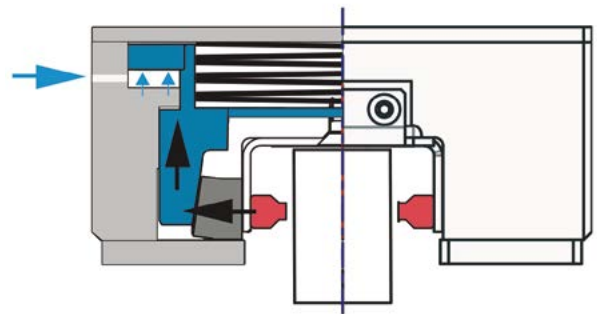

Fig. 1 Sliding profile rail under the influence of pressure
- By venting the stepless holding brake (SHB) with the required operating pressure, the clamping element of the brake is pressed against the cup spring. The profile rail can be moved (Fig. 1).